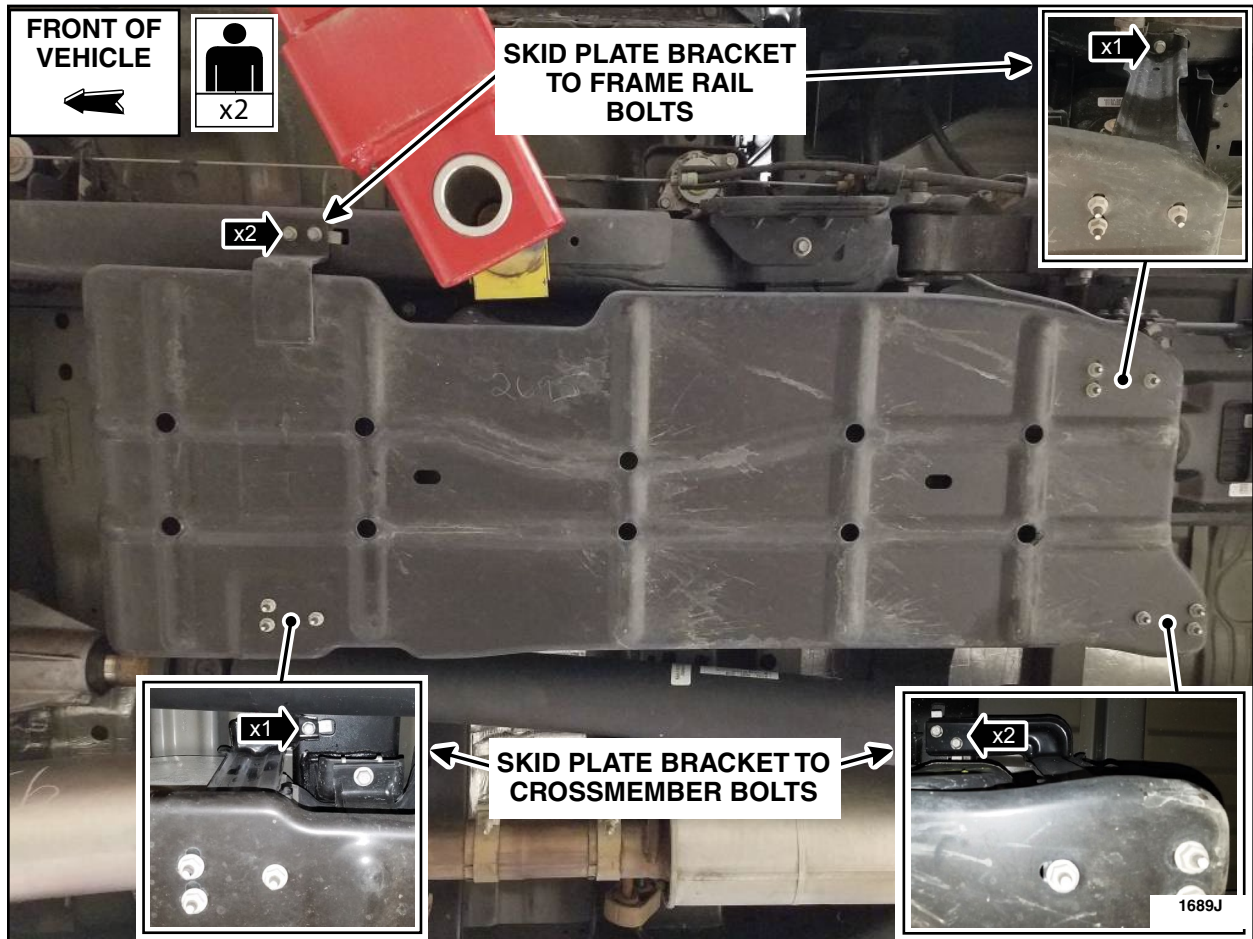

FIGURE 3
3. If equipped, remove the three skid plate bracket to crossmember bolts and the three skid plate bracket to frame rail bolts. With the help of an assistant, remove the skid plate. See Figure 3.
14. If equipped, install the skid plate. See Figure 3.